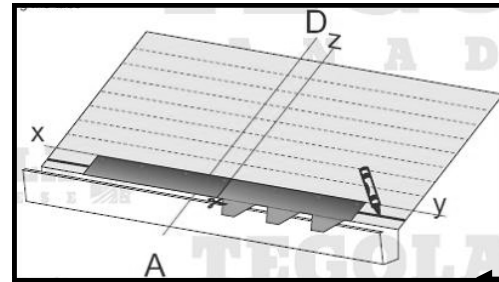

Fig H3
13. Align it to the line z & xy (Fig H3).